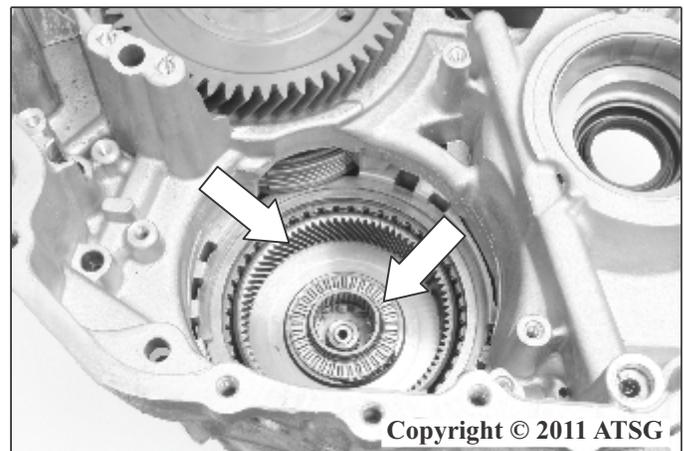

Figure 222
34. Install the 1-2/Reverse internal gear as shown in Figure 222.
35. Make sure the internal gear thrust bearing assembly doesn't become dislodged as shown in Figure 222.